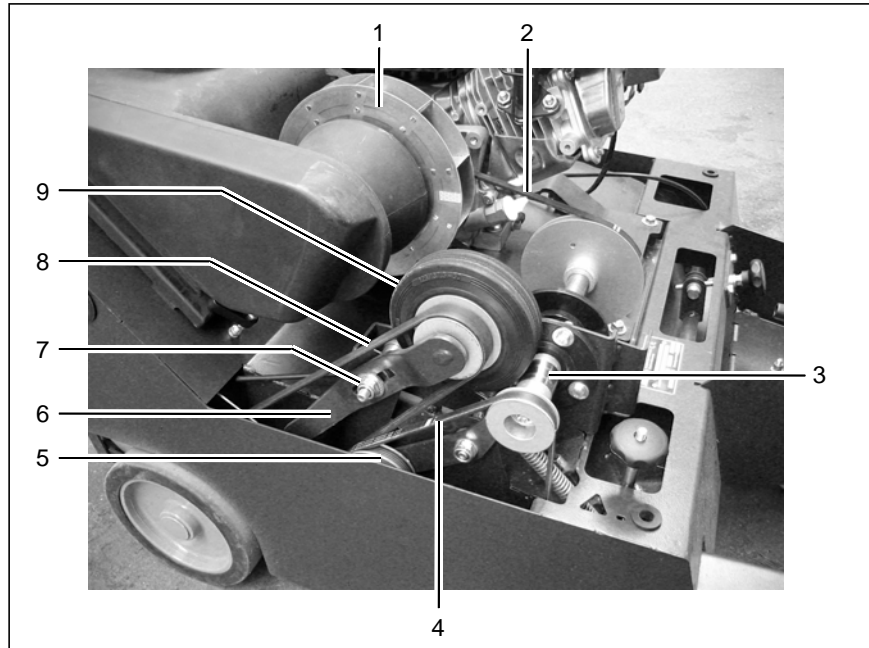
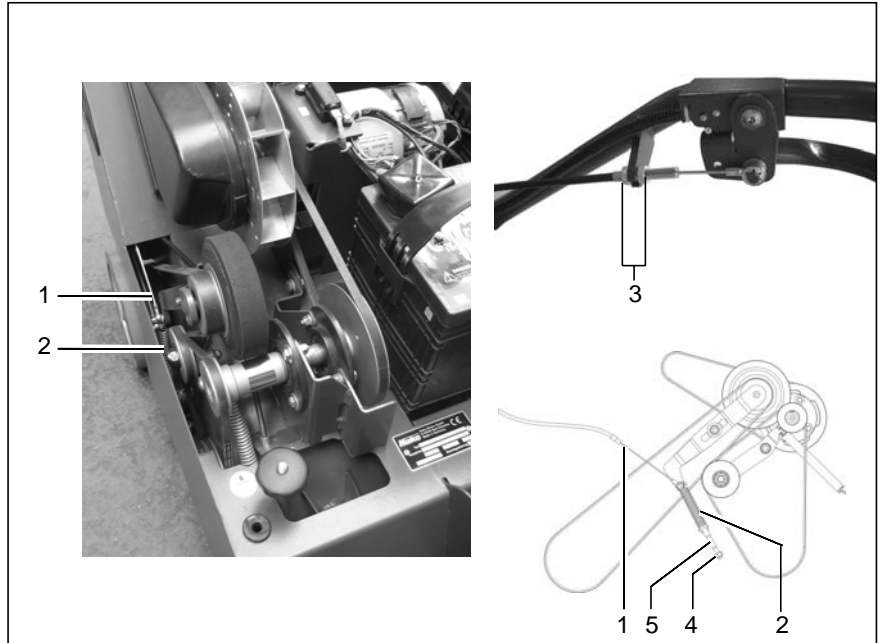

Fig. 16
Fig. 17
Ensure the engine has stopped before opening the hood. Risk of injury through running belt drives (Fig. 16/2+4+8) and rotating fan (Fig. 16/1)!
If you notice that the rear wheel shaft is no longer driven properly, it is possible that the tension of the drive belts (Fig. 16/2+8) is no longer sufficient or the running surface of the friction wheel (Fig. 16/9) is worn (distance between wheel and running surface > 0.04 in).
1. Loosen the screw connection (Fig. 16/7) in the friction wheel crank (Fig. 16/6).
2. Tension the belt (Fig. 16/8) which leads to the rear wheel shaft by moving the friction wheel crank (Fig. 16/6) in the slot using an appropriate tool.
The friction wheel (Fig. 16/9) thereby lies against the drive shaft (Fig. 16/3).
3. Tighten the screw connection (Fig. 16/7) in the friction wheel crank (Fig. 16/6).
5. Turn the hexagon nut (Fig. 17/4) so far on the eye bolt (Fig. 17/5) until the tension spring (Fig. 17/2) tensions and the friction wheel retracts 0.04 - 0.08 in from the drive shaft (Fig. 16/3).
6. Turn the hexagon nuts (Fig. 17/4) one revolution further.
7. Complete any fine adjustment using the Bowden cable adjusting nuts (Fig. 17/3) on the handlebar: turn the adjusting nuts (Fig. 17/3) so that the distance between friction wheel and drive shaft is between 0.02 and 0.04 in.